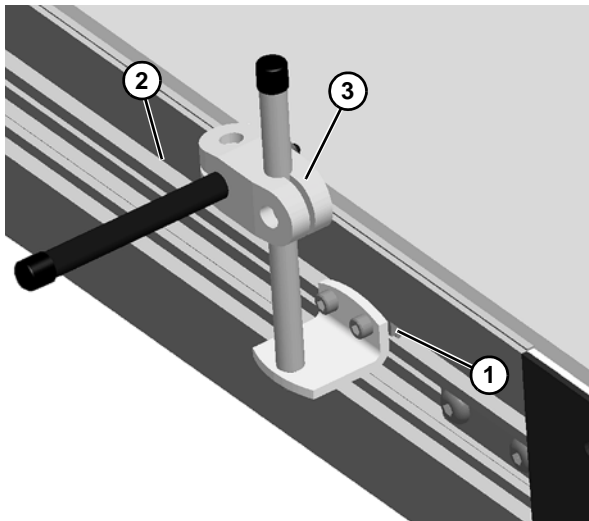

Figure 35
1. Insert drop-in tee bars (Figure 35, item 1) into the conveyors t-slot (Figure 35, item 2), if applicable, and attach fully adjustable brackets (Figure 35, item 3). Evenly space along length of conveyor.